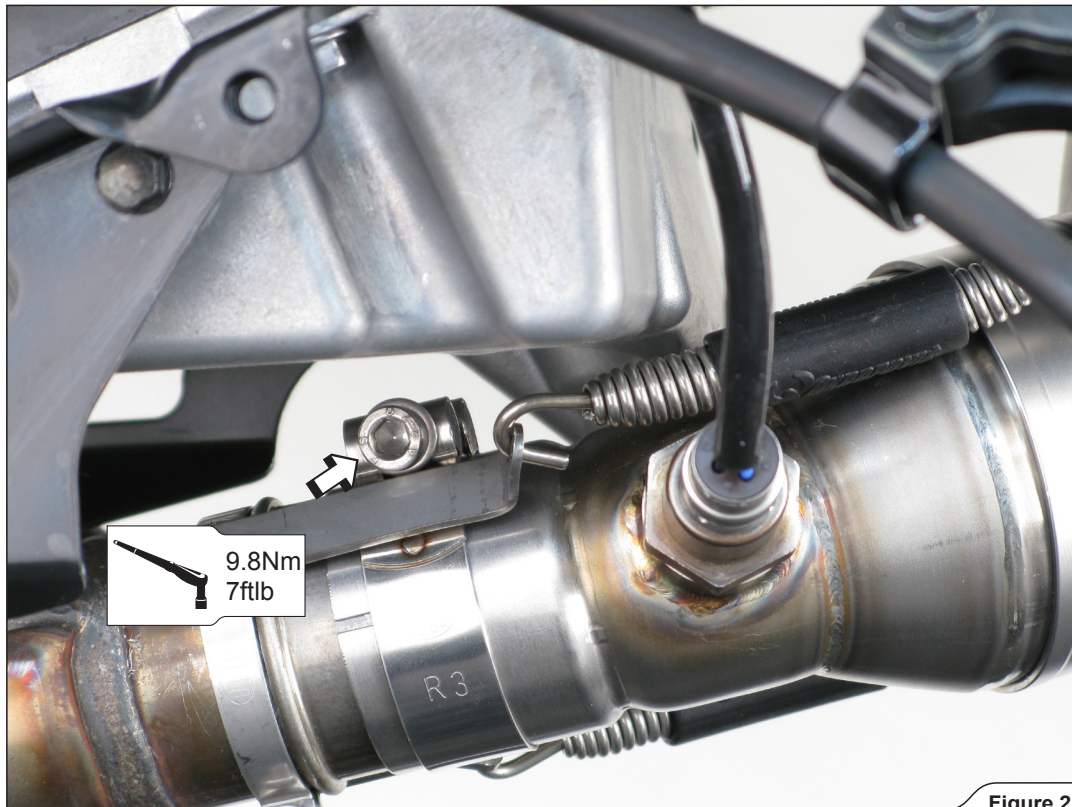

Figure 21
8. Tighten the metal clamp (Figure 21)